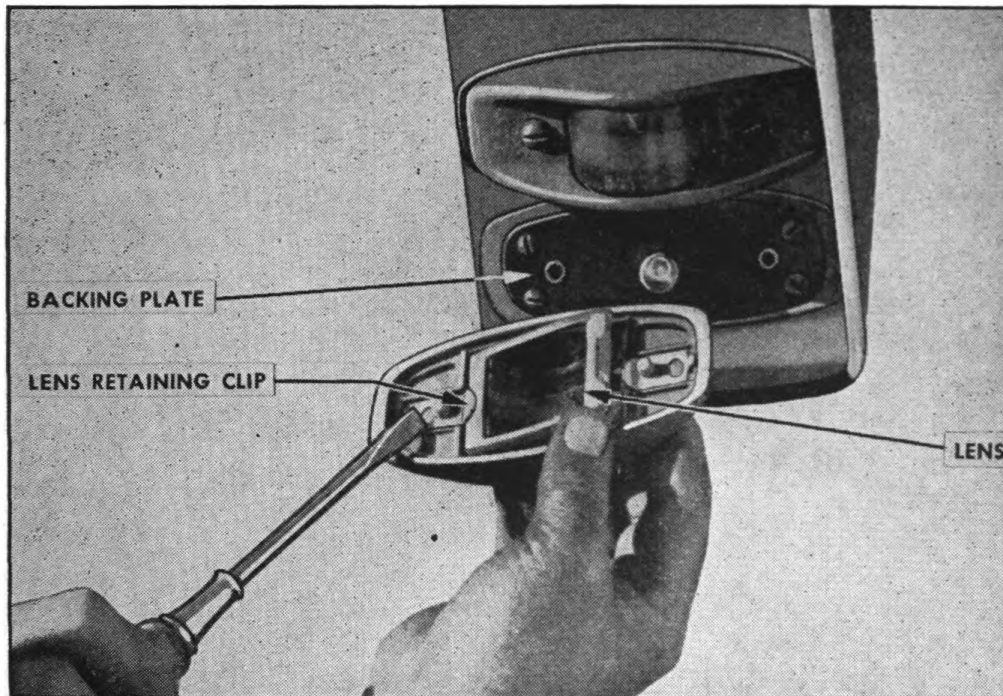

FIGURE 55. CLEARANCE LIGHTS—DISASSEMBLY, STEP 2.
b. Pull clip, which holds lens to housing, toward the outer edge of housing, and lift lens out (Fig. 55).
c. Remove the four screws from plate (Fig. 55) and pull the assembly out of frame.